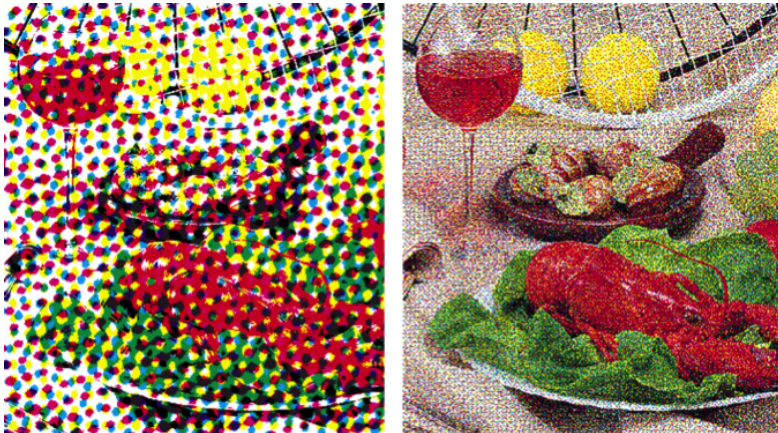

Figure 1: Zoomed in AM screen at the left, and FM screen at the right.
In the early days of digital halftoning 2 major techniques were used to render tints. To cover a larger area with ink, one could either increase the size of the small dots, which is called Amplitude Modulated (AM) screen, as you can see on the left picture of Figure 1, or increase the number of dots, called Frequency Modulated (FM) screen, as you can see on the right.